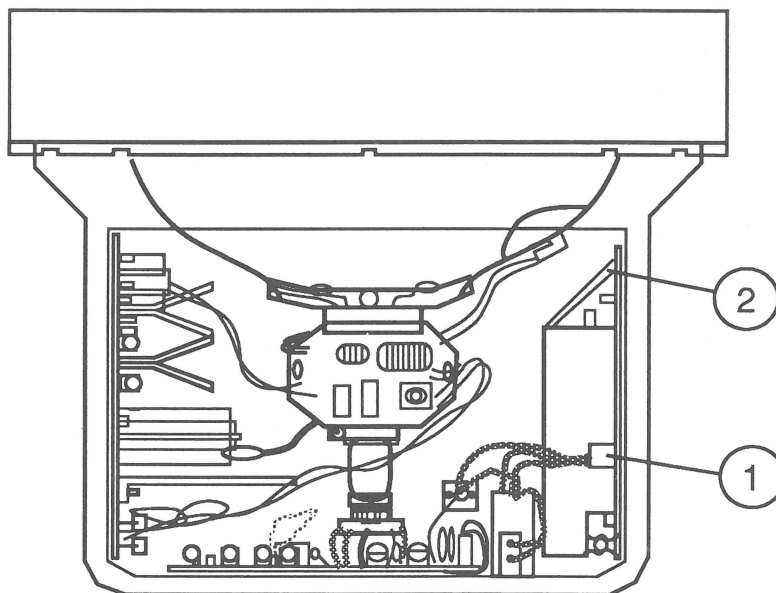

FIGURE 24
6. Disconnect the three-wire connector from the top of the power supply (Figure 24, #1) and the five-wire connector from the front side of the power supply (Figure 24, #2).
2. Reconnect the five-wire connector to the front side of the power supply (Figure 24, #2).
3. Reconnect the three-wire connector to the top of the power supply (Figure 24, #1).